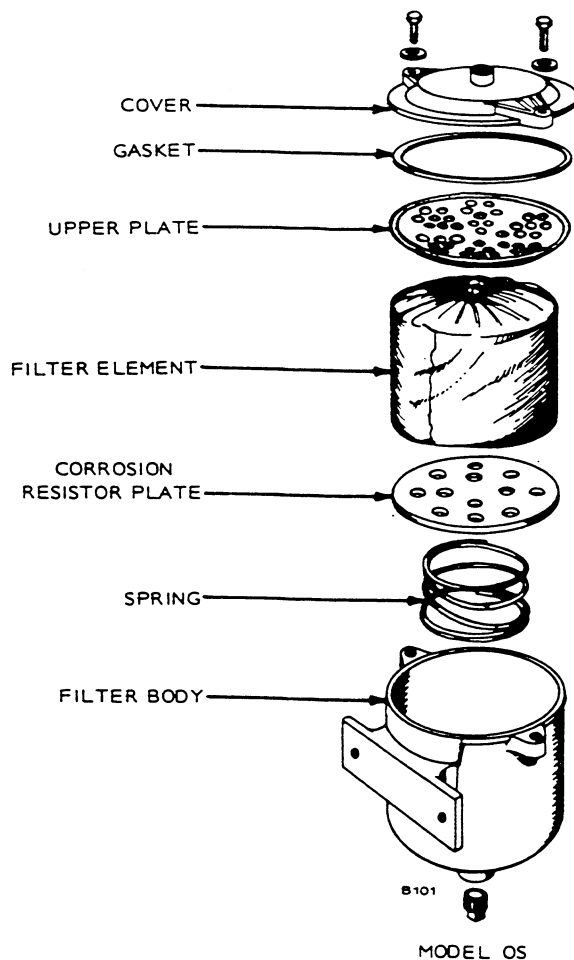

FIGURE 24. CHANGING CORROSION RESISTOR ELEMENT AND PLATE
4. Remove capscrews attaching filter cover to body and remove cover (Figure 24).